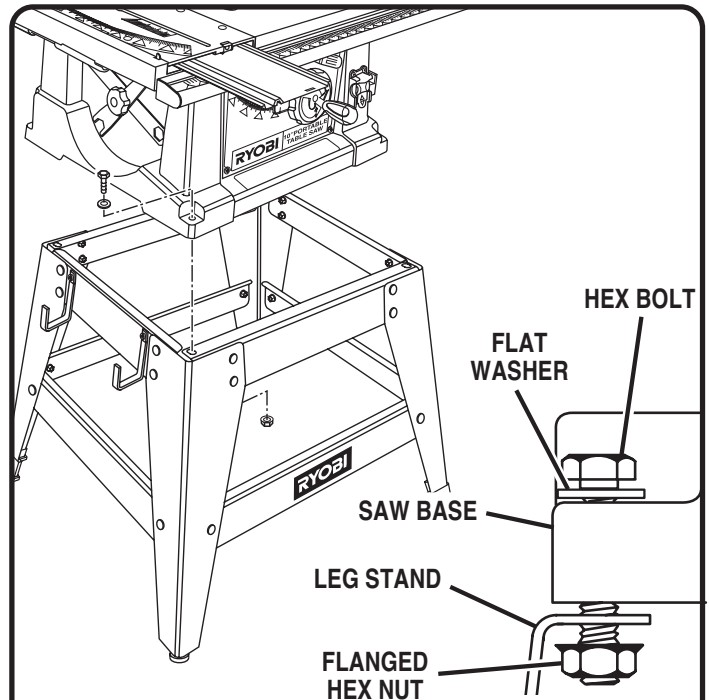

Fig. 9
See Figure 9.
- Place a flat washer on a hex bolt and insert through hole. Add a flanged hex nut. Hand tighten. See Figure 9.